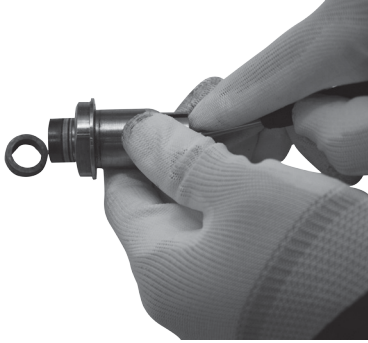

Figure 7. Remove packing carefully (step 8)
8. Carefully remove the packing stack (key 30) from the rear of the gland. Use a screwdriver, Figure 7, to push between the coils of the spring (key 28) to avoid cutting the packing or scratching the gland.